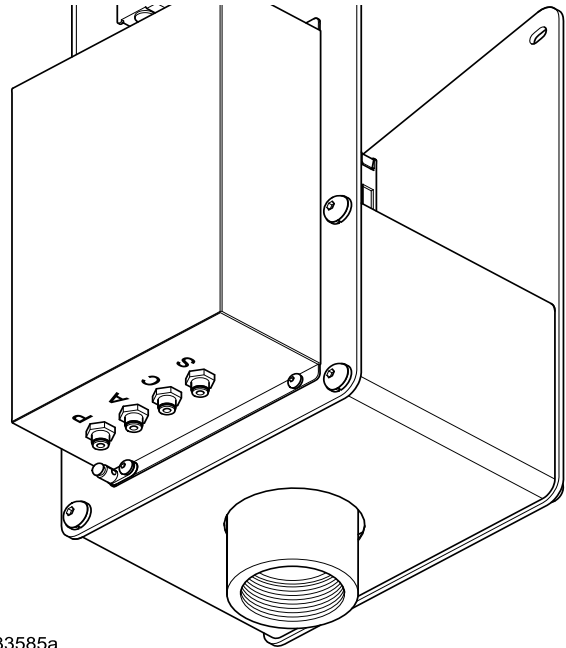

FIG. 11: Gun Flush Box Air Fittings (Bottom View)
GFB Gun Flush Box (see FIG. 11 for detail of air line connection fittings A, C, P, S)
2. Position pressure switch (107) as shown. Install bulkhead fitting (108) to secure the switch to the side of the panel. Install tubing adapter (118) in the bulkhead fitting.
3. Route the pressure switch wires through the designated strain relief (K). Connect PS#1 wires to pins 7 and 8. Connect PS#2 wires (if used) to pins 9 and 10.
4. Connect a 5/32 in. (4 mm) OD air tube from the tube adapter (118) to the **A** port on the bottom of the gun flush box. See FIG. 1 and FIG. 11.
The four gun flush box air fittings are labeled as follows. See FIG. 11.